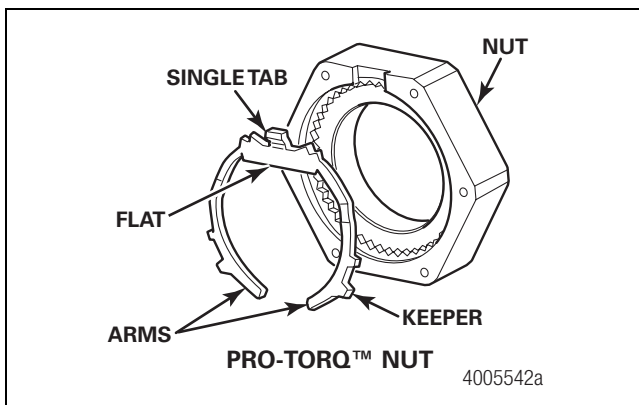

Figure 13.25
5. Remove the keeper from the PRO-TORQ™ nut. Use a screwdriver to pry out the keeper arm from the groove on each side of the nut until the keeper is released. Meritor recommends replacing the keeper with a new one each time the PRO-TORQ™ nut is removed to maintain the integrity of the locking mechanism. Use a 3.5-inch (89 mm) socket wrench to remove the PRO-TORQ™ nut. Figure 13.25.